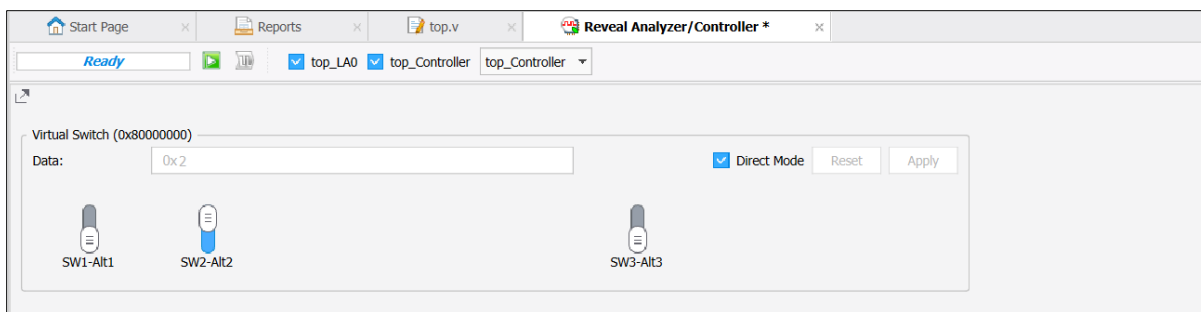

Figure 7.7. Toggle SW2-Alt2
- a. Toggle SW2-Alt2 in top_Controller (Figure 7.7).